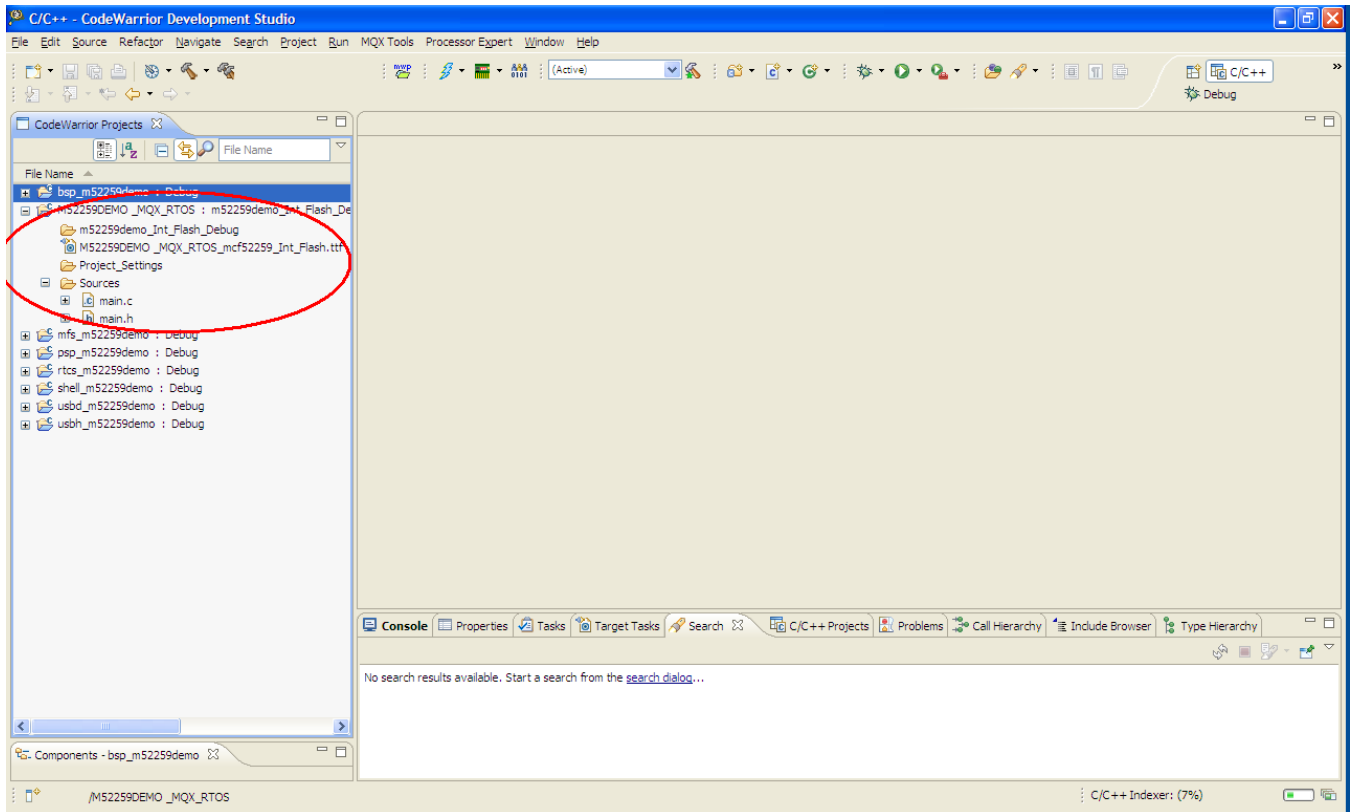

Figure 5. Freescale MQX Stationery Project for M52259DEMO Board.
- Figure 5 shows the creation of the stationery project.